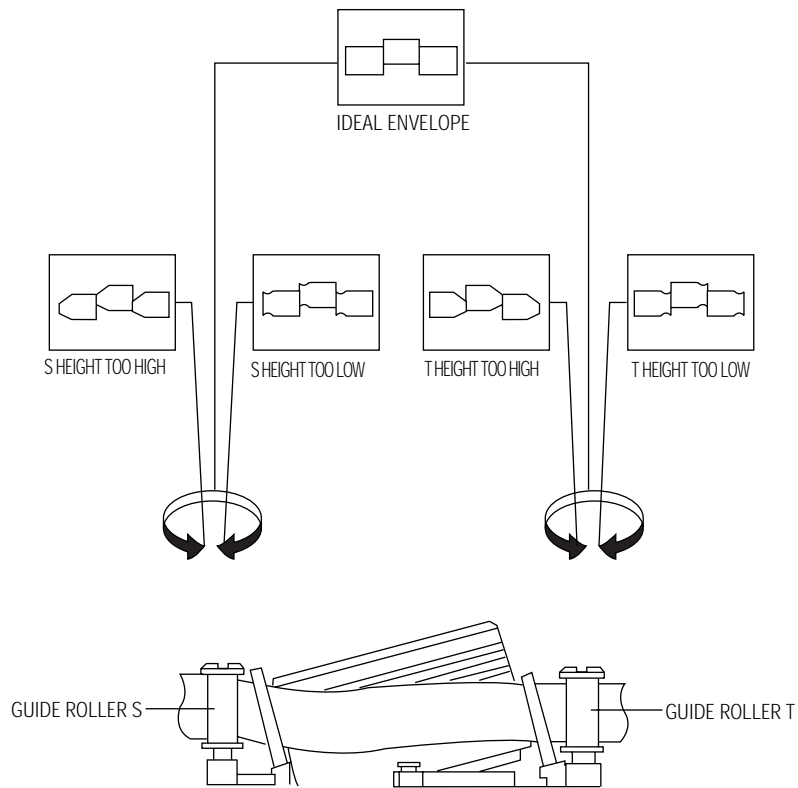

Fig. 6-11 Guide Roller S, T Height Adjustment
- 8) Turn the guide roller heads with a flat head (🔧) driver to obtain a flat video RF envelope as shown in Fig. 6-11.